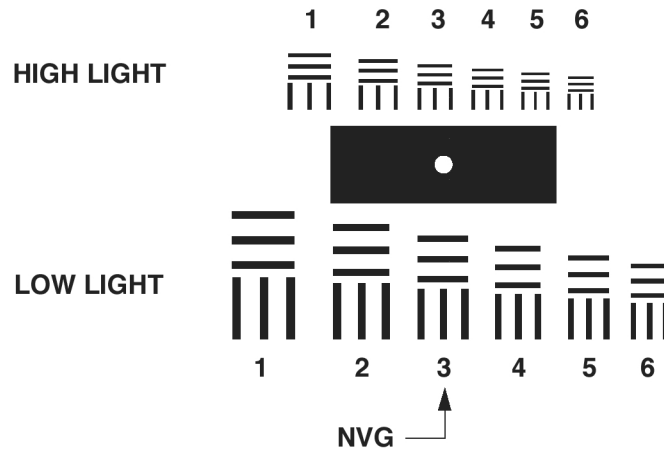

Figure 3-3. Low Light Resolution Test Pattern.
(6) Look for flashing, flickering, instability, emission points, or edge glow, refer to (TM 11-5855-262-10-2). If any unacceptable conditions are noted, replace the image intensifier (para 3-14).
(7) Now observe the test pattern. You must be able to distinguish all three horizontal lines and all three vertical lines to count seeing the Element (Figure 3-3). You must be able to see Element 3 on the bottom of the test pattern for the NVG to pass.